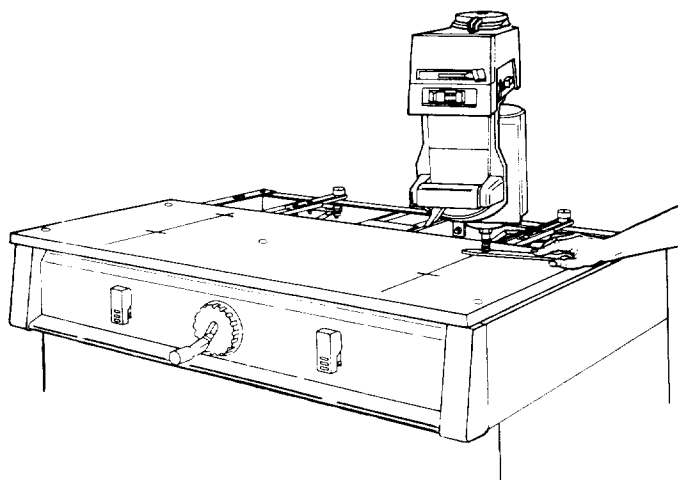

Fig. 57
17. Place the handle end of the *arbor wrench* over this point and lower the *arm* until the *arbor shaft* is just touching the *wrench*. The *wrench* should slide back and forth with slight contact. (Figure 57)